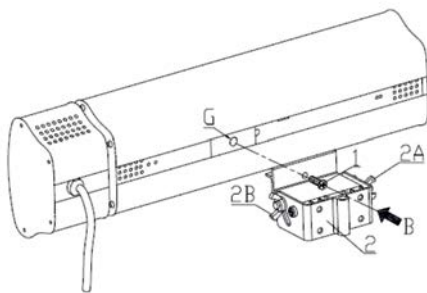
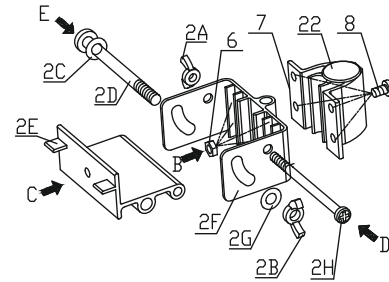

Fig. 3
Fig. 6
4. Connect the hardware to the instructions shown in Fig. 3, 4, 5
5. Hang the heater on the smooth surface of the wall with the observance of the distance specified in item 6.1. Make sure that the mounting screws firmly fastened
6. If necessary, install the heater, bracket, follow the instructions shown on Fig. 6, 7, 8, 9 and specified in item 6.3
On Fig. 6, 7, 8, 9 shows stepwise instructions on assembly and installation of infrared heater on the mobile rack.